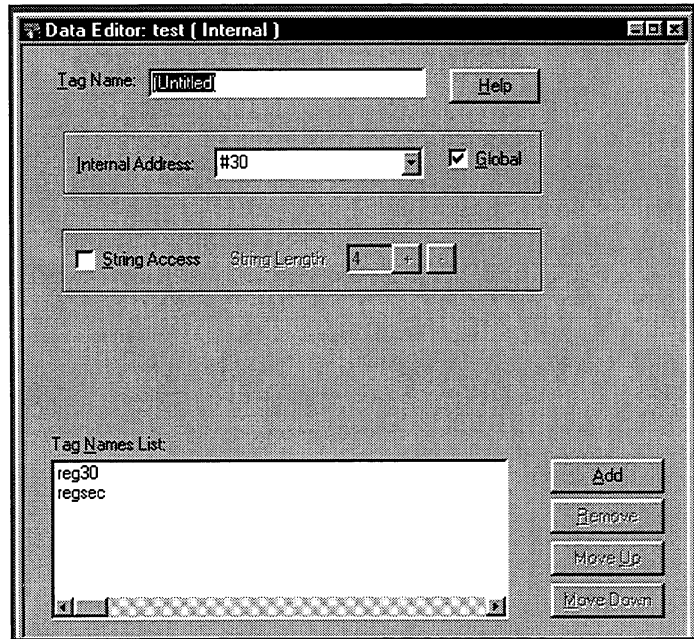

Figure 3-1. Internal Driver Form
2. Double-click on the Internal entry in the list box to access the Internal Driver form, as shown in Figure 3-1.